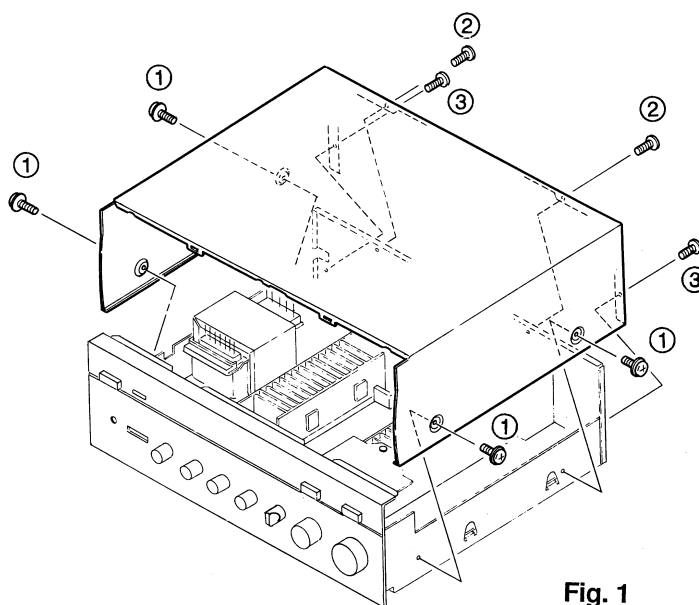

Fig. 1
Remove 8 screws (① to ③) in Fig. 1, and slide the Top Cover back.